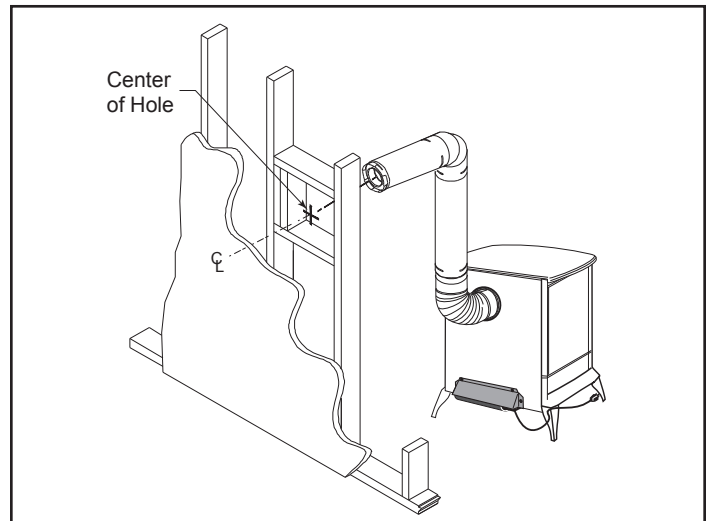

Figure 24
Step 3 - With the appliance adapter and pipe section attached, slide the stove into its correct location. Mark the wall for a square hole that measures 10" x 10" (254 x 254 mm). The centerline of the pipe should line up with the center of the square hole, Figure 24. Cut and frame the square hole in the exterior wall where the vent will be terminated. If the wall being penetrated is constructed of noncombustible material only, i.e. masonry block, brick or concrete only, a hole with zero clearance is acceptable.